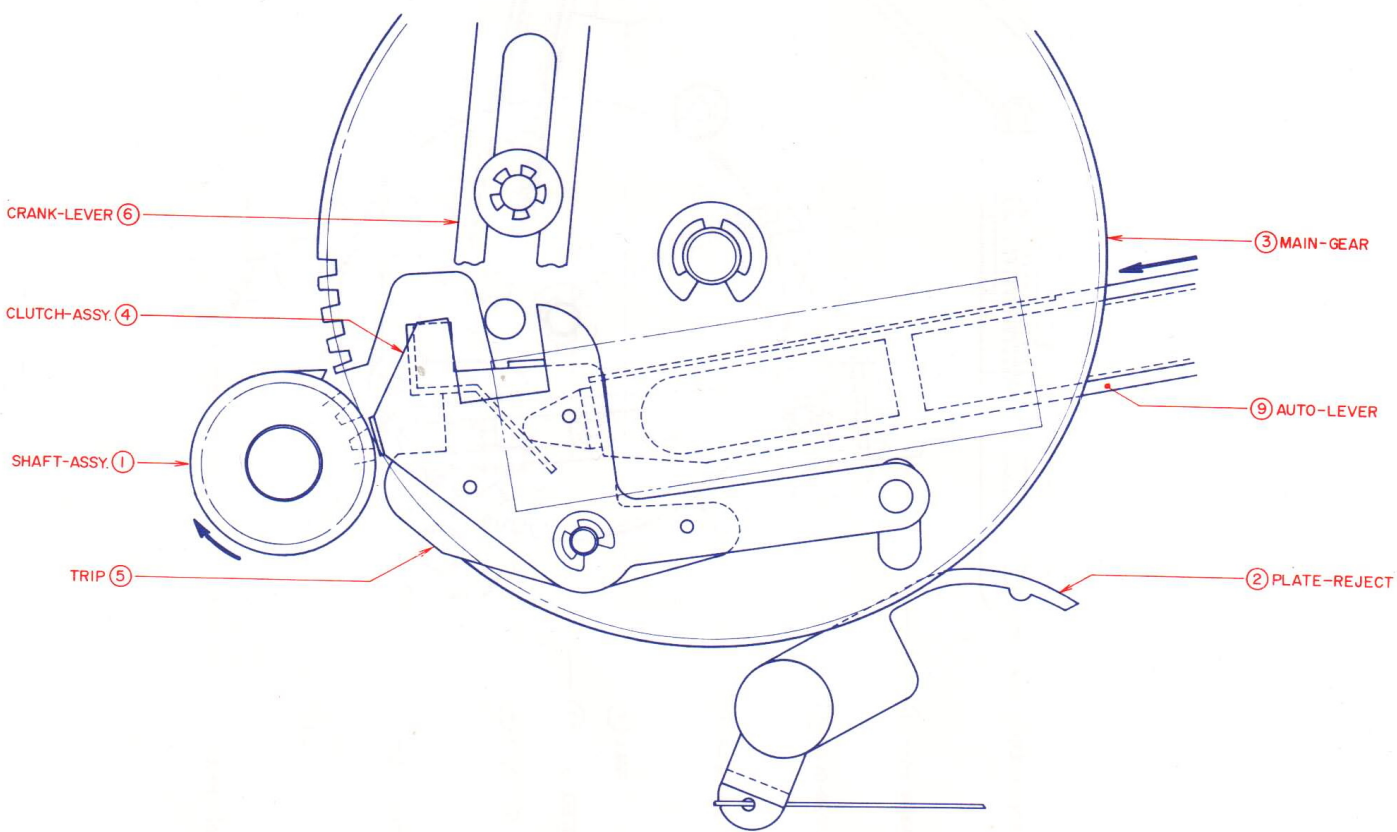

Fig. 5 PICK UP ARM STYLUS TIP IN VICINITY OF 126φ
In due time the pick up stylus finishes sound groove tracing and about the time it enters the lead-out groove, the tip of AUTO-LEVER (9) begins to push the skirt part of TRIP (5) and the CLUTCH ASSY (4) which rides lightly on this part is pushed out toward the TABLE SHAFT ASSY (1) (shown in Fig. 5, when the pick up stylus is at a about 126 mm position from the turntable).
When listening to a record and you wish to stop in the middle of a performance, or when playing a record not according to specifications, and the stylus tip has advanced to the last groove, simply bring the cut lever forward. This moves PLATE REJECT 2 which pushes PLATE JOINT (13), then POLE REJECT (15) and ultimately CLUTCH ASSY (4) is pushed as shown in Fig. 13. (\Leftarrow mark). Then return operation commences and the power source is turned OFF (Refer to Item 1 above and Fig. 5).